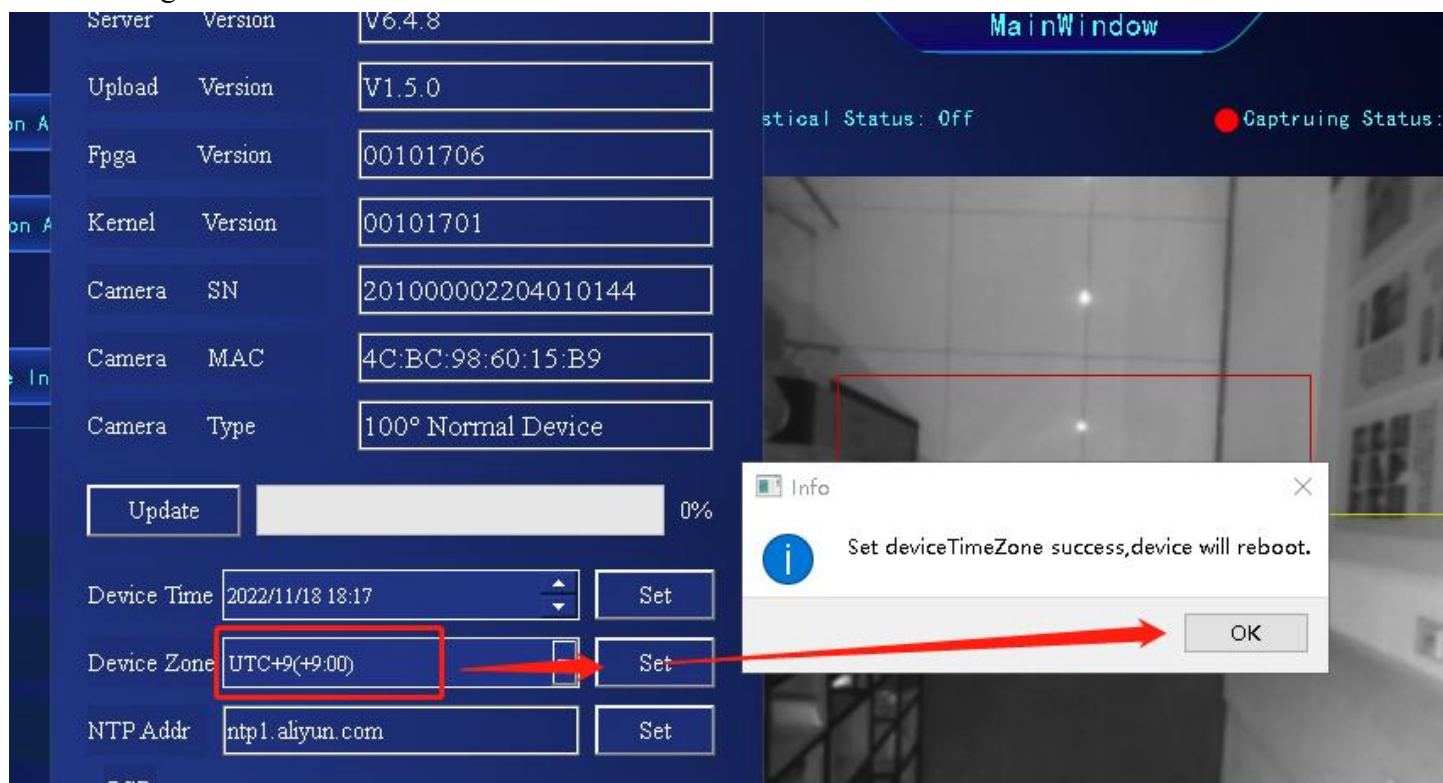

Figure 2-26 Example of time zone setting
(2) Time zone setting: Select the time zone to be set in the time zone drop-down box, and click the “Setting” button to complete the time zone setting. After the time zone is set, the device will restart once to take effect, as shown in Figure 2-26.